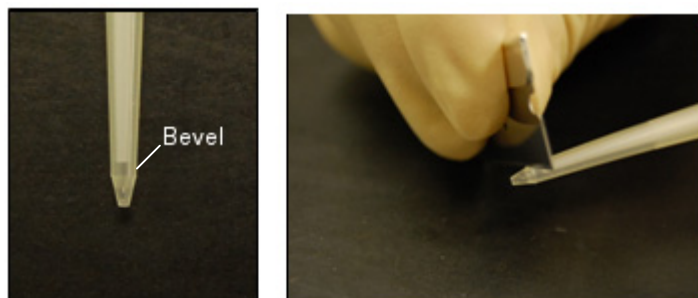

Figure 28 Cutting the Combipip Plus tip for emulsion dispersion.
10. Remove a 5-mL Combitip Plus tip from its packaging, then cut off its end at the bevel with a razor blade (see Figure 28 on page 55).